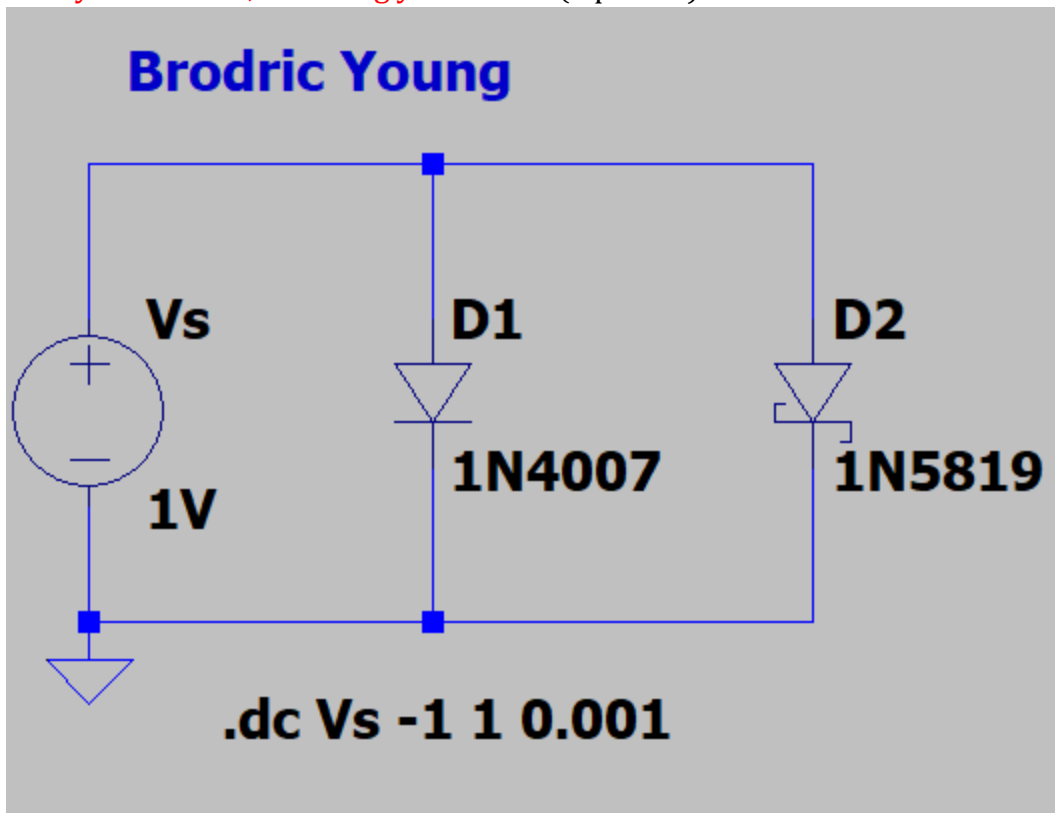

Figure 1: LTspice Circuit for Characterizing Diode Performance.
1. Build the circuit illustrated below in **Figure 1** in LTspice. For the 1N4007 and 1N5819, first place a standard **diode** from the main LTspice library. These diodes then need to be configured for the appropriate models. To change from the standard diode model, hover the mouse over the diode in the schematic and then right click, which opens a **Diode** pane. Then click on the **Pick New Diode** box, which opens a **Select Diode** window with many diode possibilities. For the 1N5819, it is suggested to sort on the **"type"** of diode in this window to narrow down the search and then look through the **Schottky** diode options to find the 1N5819. Selecting the 1N5819 model from the **Select Diode** window then updates the associated diode model and modifies the schematic diode symbol to the symbol for a Schottky diode. The diode type can also be changed simply by editing the value from D to 1N4007 or 1N5819 on the schematic, although this approach does not modify the schematic symbol for Schottky diodes.
3. When completed with your schematic, **replace the schematic shown in Figure 1 below with your version, including your name.** (8 points.)
10. Using the waveform cursors and three significant figures, calculate and record below the bulk resistance of the 1N4007 occurring at $V_d = 0.75$ V for your **Figure 1** circuit. (Note: Bulk resistance is calculated as $\Delta V / \Delta I$ and is meant to approximate dV/dI at the point of interest. Hence, choose ΔV values that are slightly above and below the $V_d = 0.75$ V data point and use the associated ΔI values for your calculation.) (2 points.)
11. Using the waveform cursors and three significant figures, calculate and record below the bulk resistance of the 1N5819 occurring at $V_d = 0.3$ V for your **Figure 1** circuit. (Note: Bulk resistance is calculated as $\Delta V/\Delta I$ and is meant to approximate dV/dI at the point of interest. Hence, choose ΔV values that are slightly above and below the $V_d = 0.3$ V data point and use the associated ΔI values for your calculation.) (2 points.)